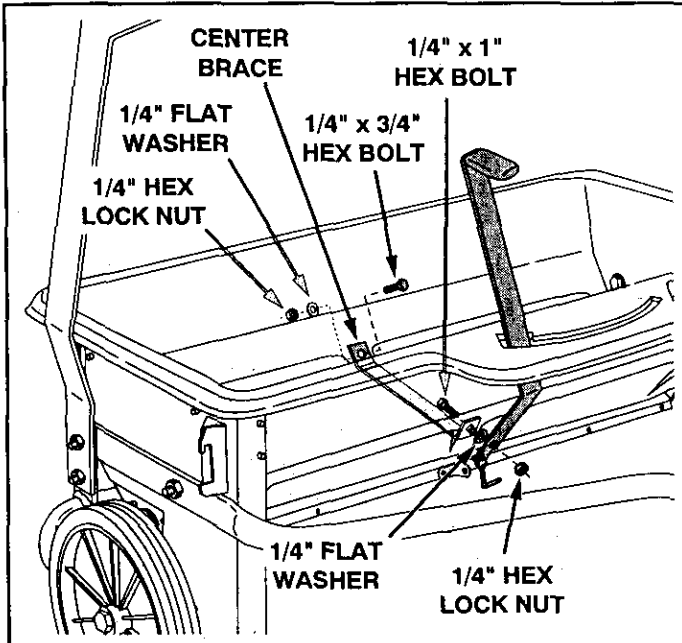

FIGURE 8
- Place the flow control lever into the slot in the hopper. See figure 8.
- Place the center brace into the hopper. Insert the 1/4" x 1" hex bolt through the center brace and the front of the hopper. Assemble a 1/4" flat washer, the flow control lever and a 1/4" hex lock nut onto the bolt. **Do not tighten yet.** See figure 8.
- Insert the 1/4" x 3/4" hex bolt through the center brace and the rear of the hopper. Assemble a 1/4" flat washer and 1/4" hex lock nut onto the bolt. **Tighten** both the front and rear bolts. See figure 8.